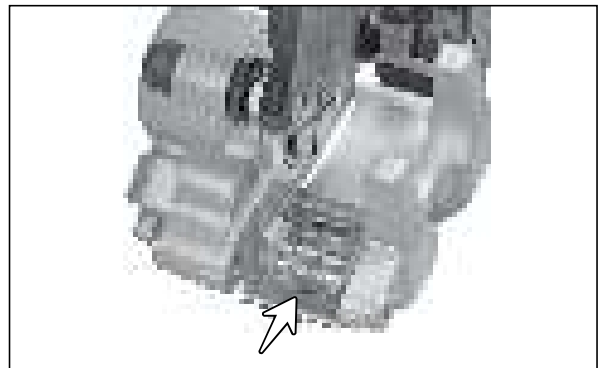

Fig. 6.122
- Remove the spring pad from the caliper housing. (Fig. 6.122)